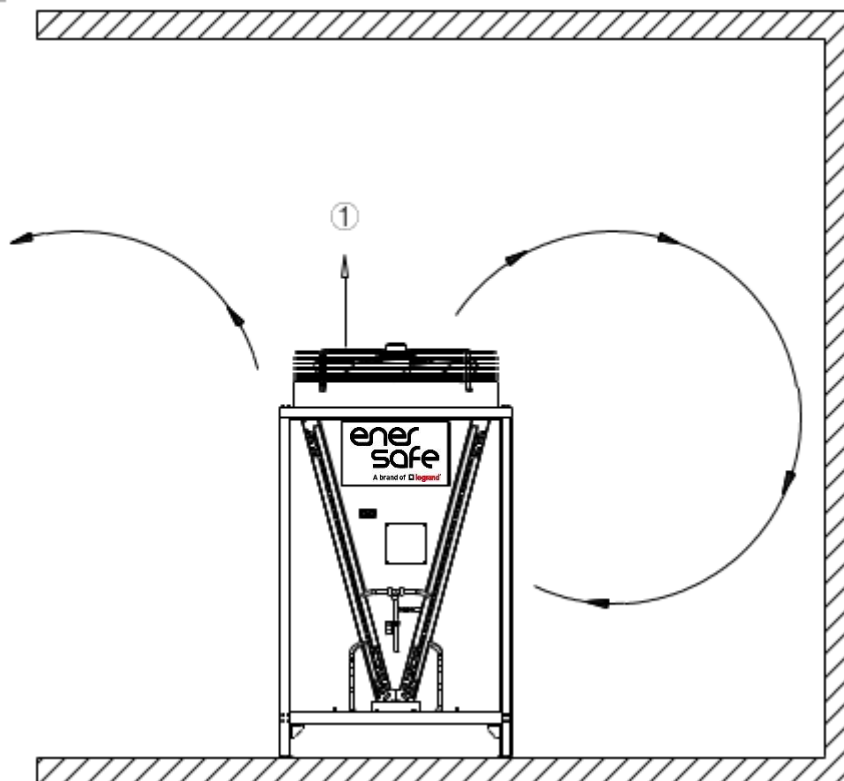

Fig. 2-5 Schematic diagram of installation of hot air short circuit
3. The air outlet of the ECONO air-cooled V-Type condenser should avoid short circuit of hot air, which will result in poor heat exchange effect, as shown in Fig. 2-5.